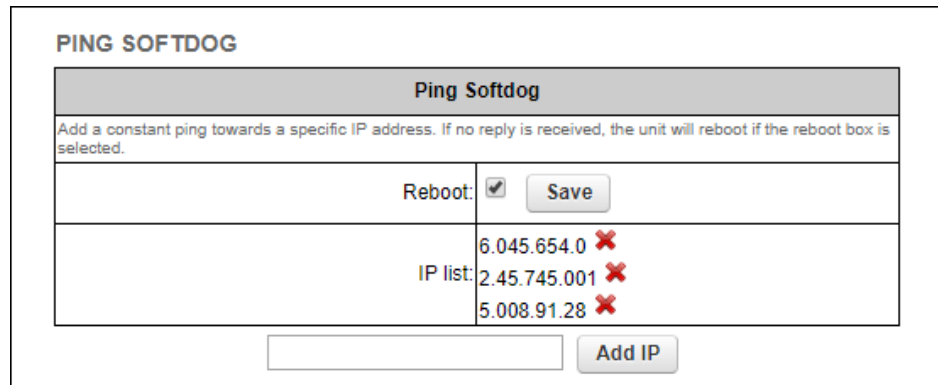

Figure 28. Configurator GUI (Ping Softdog dialog)
- The **PING SOFTDOG** dialog will be shown (Figure 28 \(page 83\)).